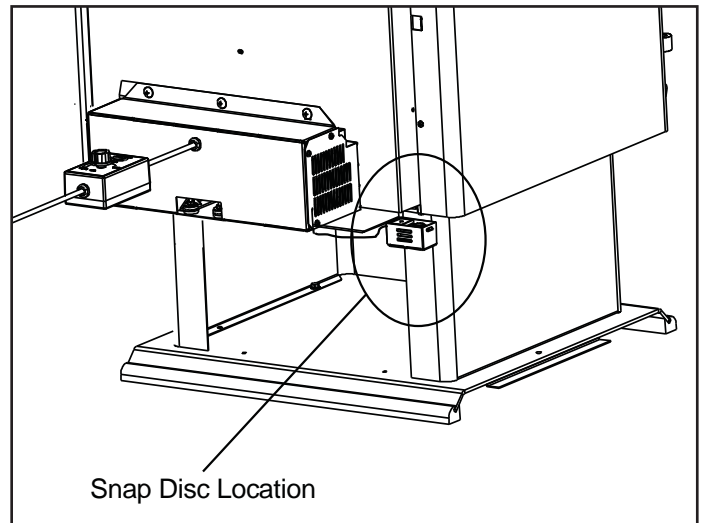

Figure 36.3
1. Locate the snap disc bracket assembly at the bottom left rear corner of the stove. **Figure 36.3.**